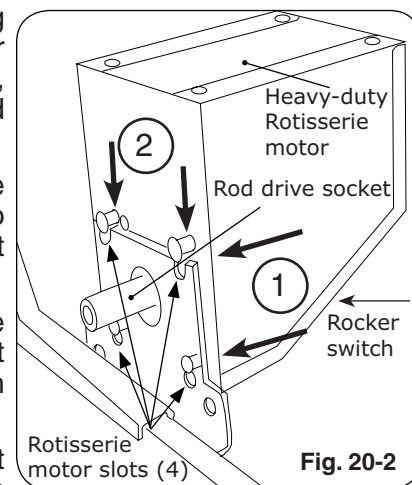

Fig. 20-2
2. Slide rotisserie motor fully onto motor bracket (right side, Fig. 20-2).